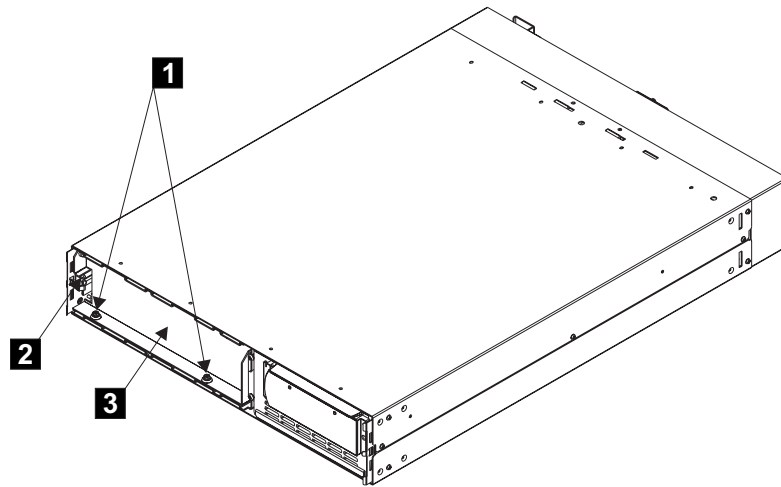

Figure 38. Removing the battery retaining bracket
- c. Remove the two bolts **1** and additional nut **2** on the left side of the bracket, as seen in Figure 38. Next, remove the battery retaining bracket **3**.